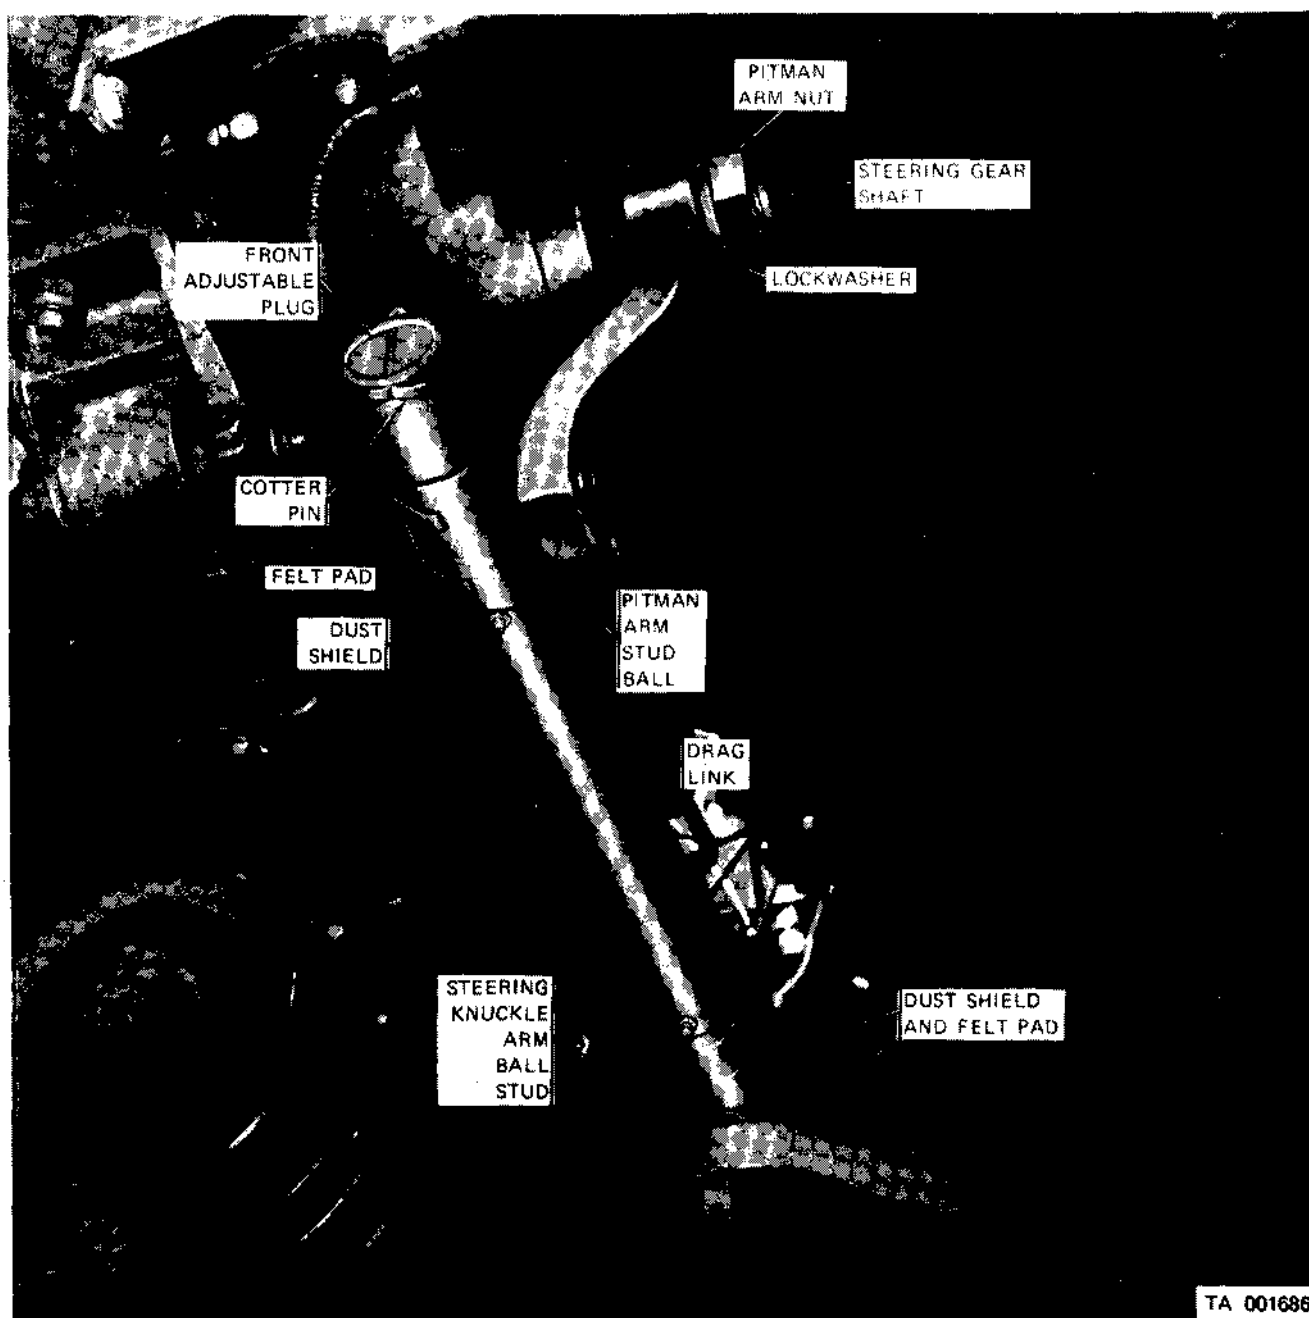

Figure 175.11. Steering linkage removal and installation.
a. Drag Link Removal (fig. 175.11 and 175.12).
(1) Set front wheels in straight ahead position and steering wheel in midposition.
(2) Remove and discard cotter pins from both ends of drag link.
(3) Disconnect dust shield from both ends of drag link.
(4) Loosen adjustable plugs at both ends of drag link, but do not remove plugs.
(5) Turn steering wheel in both directions to loosen drag link ends. Remove front end of drag link from pitman arm ball stud and rear end of drag link from steering knuckle arm ball stud.
(6) Remove and discard dust shields and felt pads from pitman arm ball stud and steering knuckle arm ball stud.
b. Drag Link Installation (fig. 175.11 and 175.12).